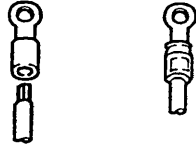

Figure 2.6 Crimp-On Lugs
- Use crimp on lugs (for 4 mm screws) with insulation sleeves (refer to Figure 2.6.).